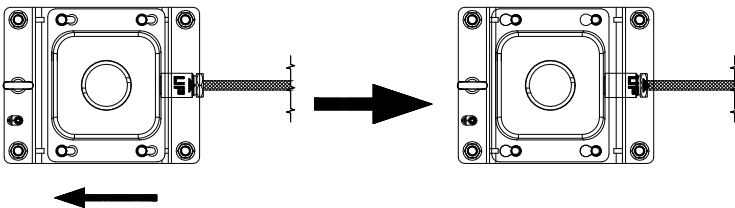

Figure 2-15 Install Bracket to Installation Plate
- 3) Hang the speed dome to the bracket by aligning the holes of bracket with the screws and move the speed dome following the direction in Figure 2-15 to secure the speed dome.